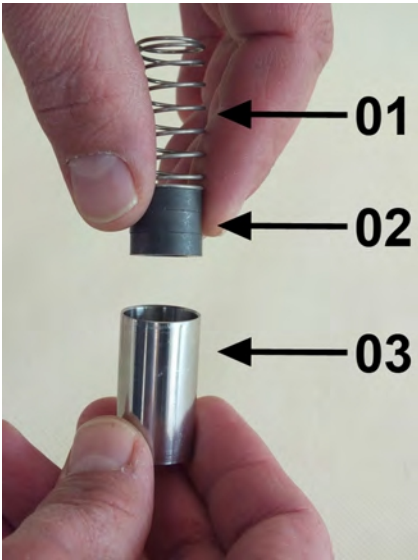

Fig. 42: inner parts
4. Insert the spring (Fig. 42/01) and magnets (Fig. 42/02) into the float (Fig. 42/03), observing the magnetic polarity (north pole toward the outlet side).